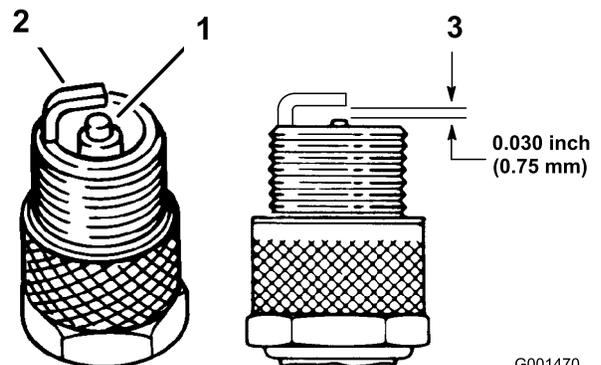

Figure 30
1. Look at the center of the spark plugs (Figure 30). If you see light brown or gray on the insulator, the engine is operating properly. A black coating on the insulator usually means that the air cleaner is dirty.
3. Check the gap between the center electrode and the side electrode (Figure 30). Bend the side electrode (Figure 30) if the gap is not correct.
3. Connect the wires to the spark plugs (Figure 30).